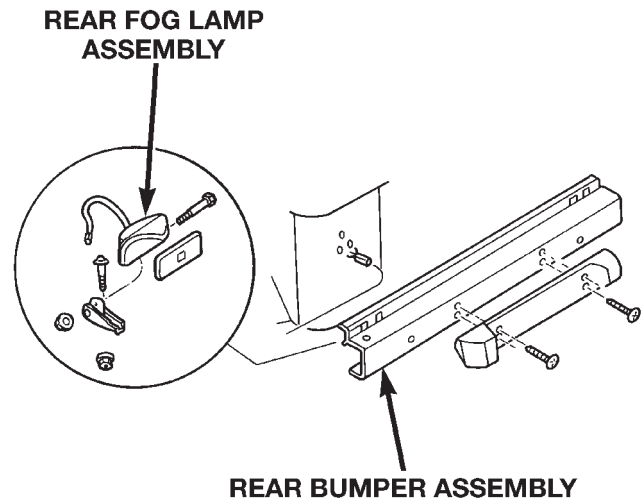

Fig. 9 Rear Fog Lamp
(1) Remove the rear fog lamp attaching screw (Fig. 9).
(2) Disconnect the rear fog lamp electrical connector.